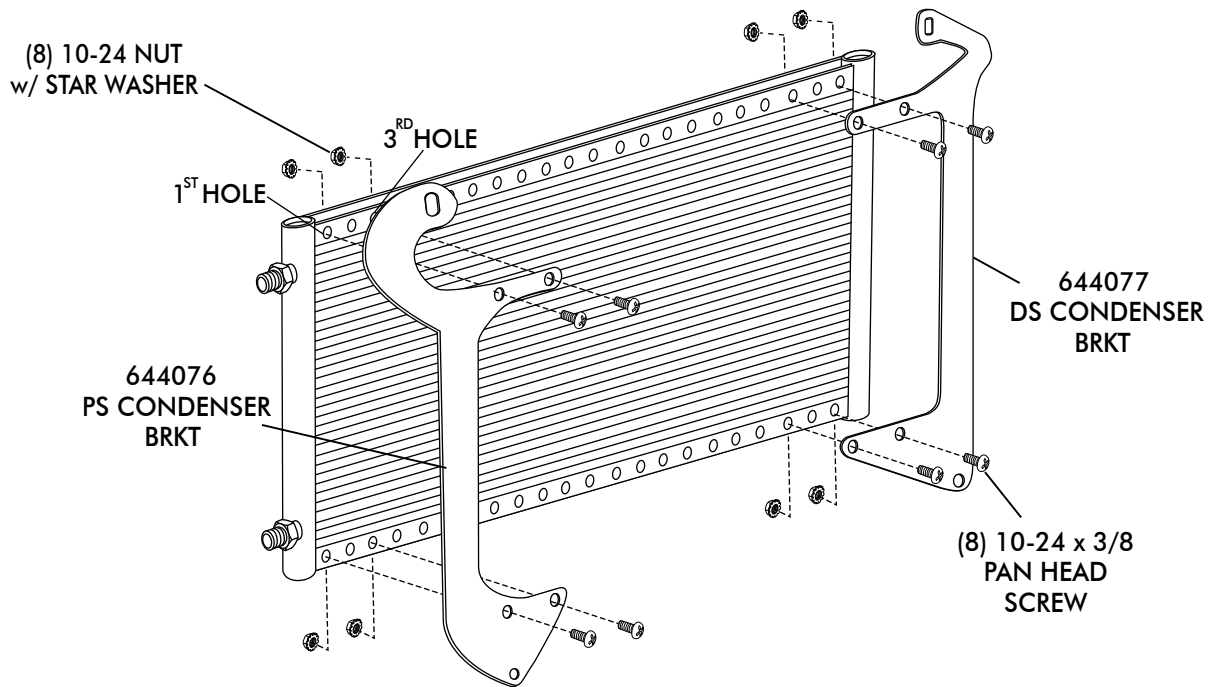

FIGURE 1
- INSTALL CONDENSER MOUNTING BRACKET ON TO CONDENSER USING (8) 10-24 x 3/8 PAN HEAD SCREWS AND (8) 10-24 NUTS WITH STAR WASHERS. SEE FIGURE 1 BELOW.